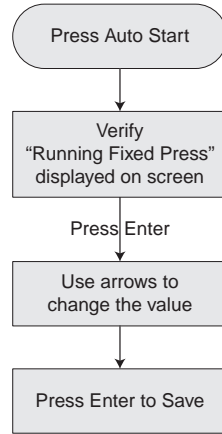

Figure 13 - Change PSI Setpoint while running pump.
- Follow keypress sequence shown in Figure 13 to make desired change. This parameter allows either *Internal* or *External Setpoint* to be changed, depending on which one is referenced at the time the change is made.